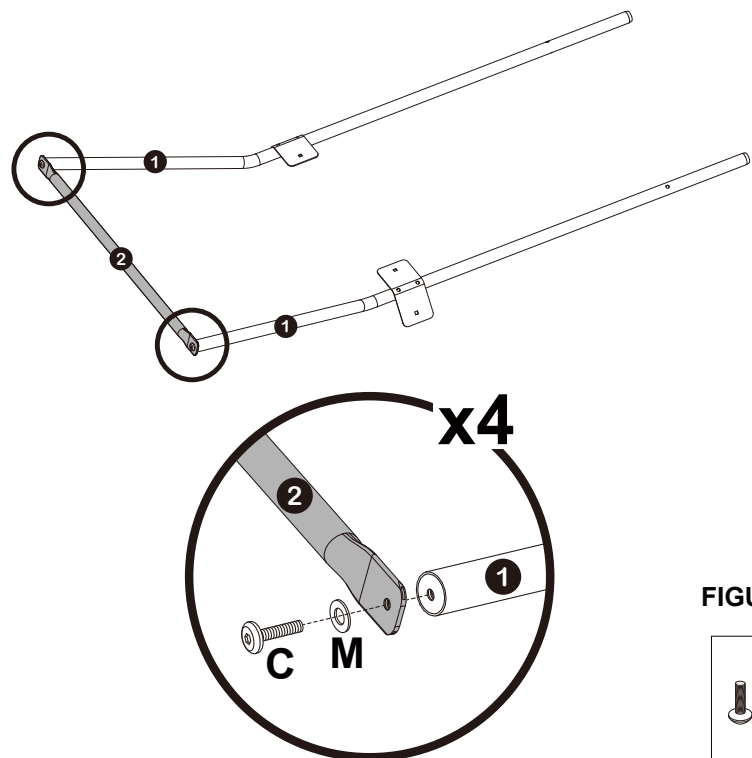

**FIGURE 1**
- Attach Connection Plate (16) to Support Tube (1) as shown in Figure 1.